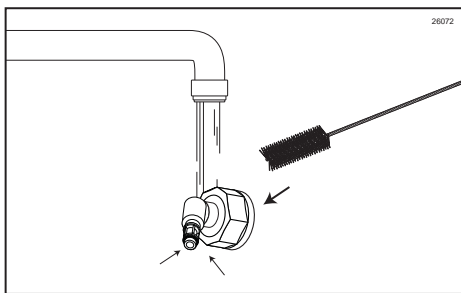

Figure 62
10. Brush and clean the Syrup Bag Adapter thoroughly with detergent water. Then rinse thoroughly with clean water. (See Figure 62.)